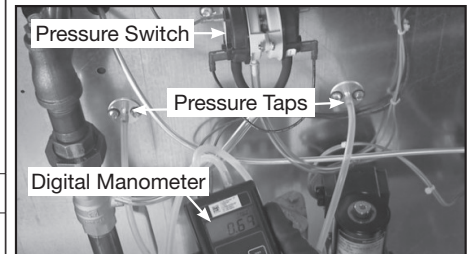

Fig. 1 Measuring the Pressure Drop
3. Check burner pressure differential. (Fig. 1)